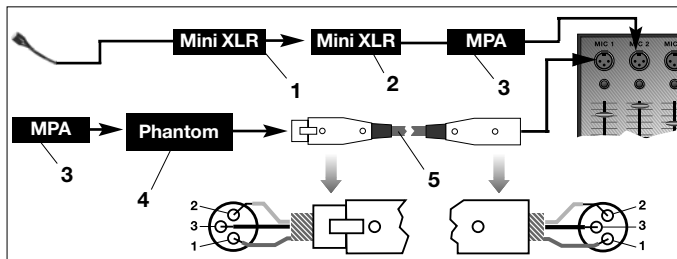

Fig. 4: Connection diagram with MPA III L.
Refer to fig. 4.
- Refer to fig. 4. 4. **If your mixer provides no phantom power:**